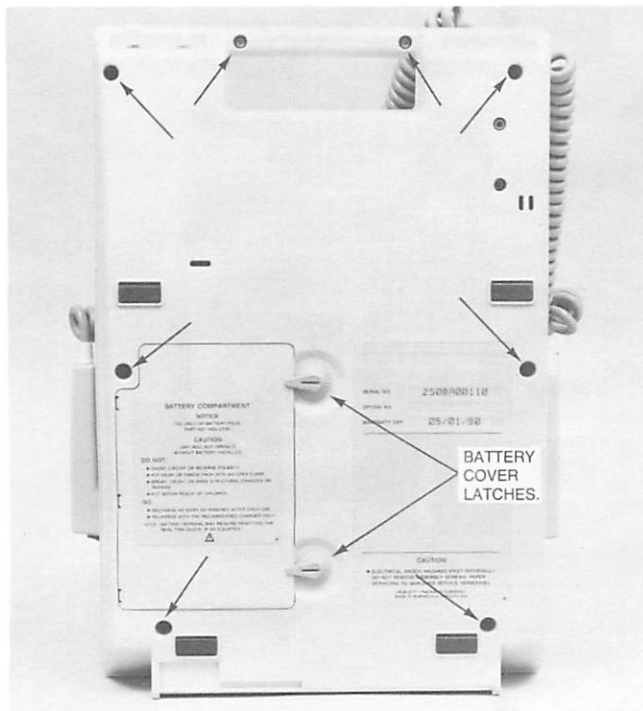

Figure 4-1. Screw Locations for Disassembly.
1. Refer to Figure 4-1.
4. Loosen screws indicated by the arrows in Figure 4-1.